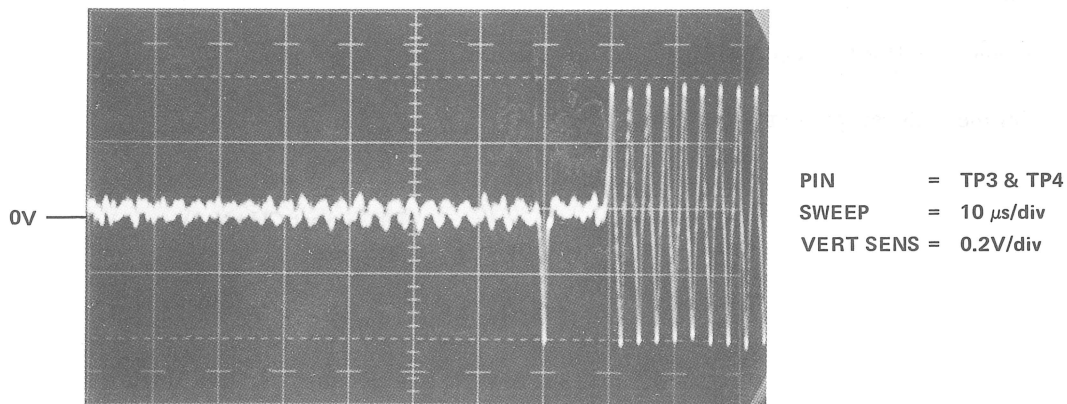

Figure 5-18 Index/Sector Waveform
11. Expand the sweep time to 10 μ s/div and check that the single pulse occurs $70 \pm 10 \mu$ s from the start of the sweep (Figure 5-18).
- c. Observe the track scale and note the cylinder indication when the "right on" waveform (Figure 5-18) is obtained. If the scale indicates less than 105, the head is too far forward in the carriage. Conversely, if the scale indicates more than 105, the head is back too far in the carriage.